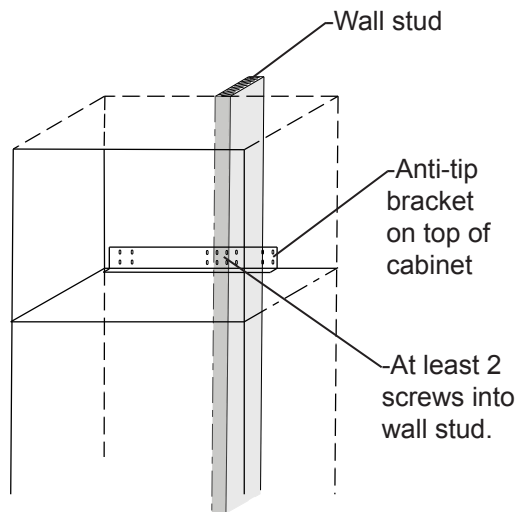

Figure 7
The anti tip bracket is fastened to the cabinet and runs the full width of the cabinet. Locate a wall stud behind the cabinet and secure the anti-tip bracket with at least (2) #8 x 1½" screws provided. See Figure 7.